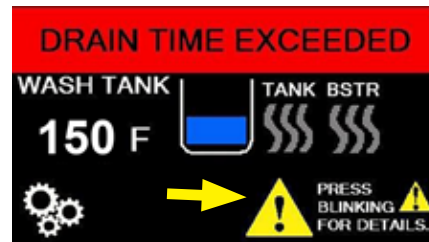

Fig. 100 - Error screen with blinking icon
- If the machine does not drain completely in the allotted time then "DRAIN TIME EXCEEDED" and a blinking fault icon appear, (Fig. 100).